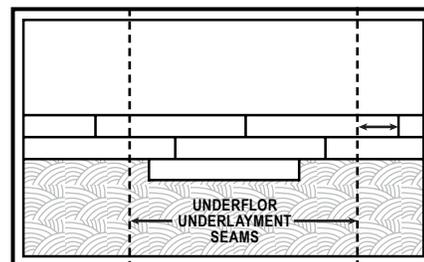

Fig. 10
- Install planks with staggered end joints positioned at least 2" away from the seams in the underlayment (Fig. 10).